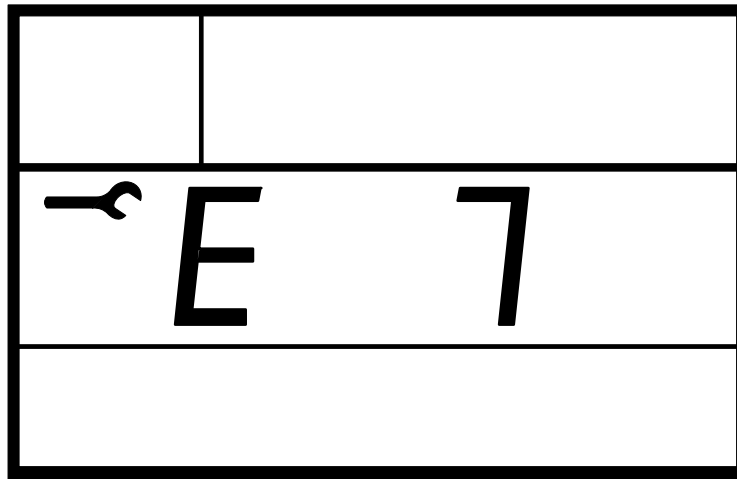

Figure 5-2 Diagnostics Mode Display
2. See Figure 5-2. A wrench symbol on the digital display indicates that diagnostics mode is active.